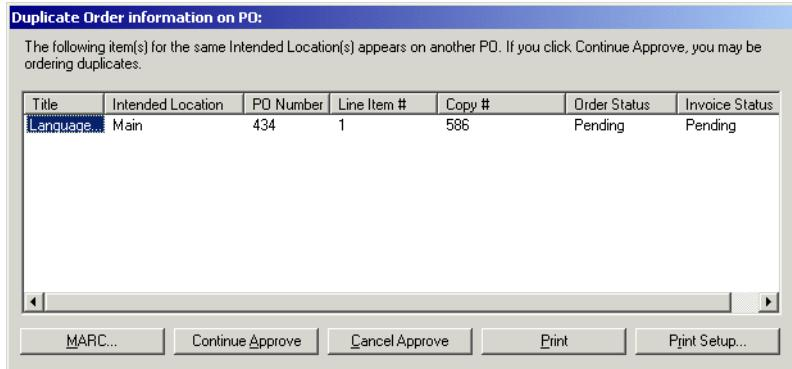

Figure 6-58. Duplicate Order Information on PO dialog box
4. Click the **Check for Duplicates** check box if you want the system to check for duplicate titles for the same location when a purchase order is approved. The system checks duplicate line items based on the Order Location and the Bibliographic ID. If any orders match these two criteria, the **Duplicate Order Information on PO** dialog box opens (see Figure 6-58).
The **Duplicate Order Information on PO** dialog box (Figure 6-58) opens when you approve a purchase order that contains titles that are on more than one purchase order for the same location, or duplicate purchase order numbers.